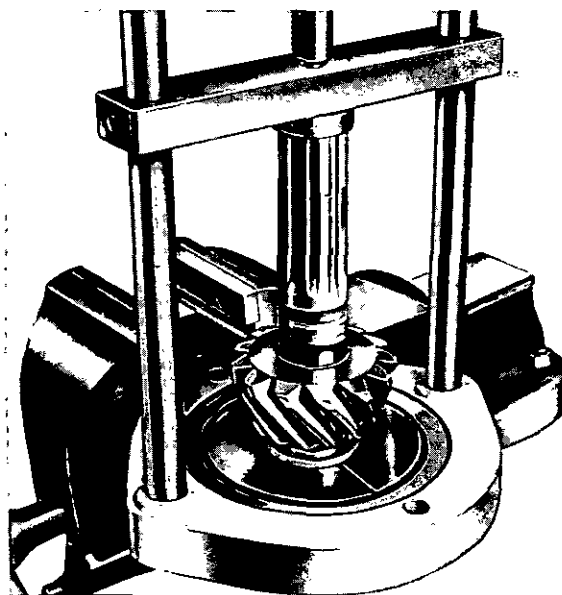

FIG. 37
1. Fig. 37. Using the MF 200 hand press and adapter MF 200-23, press the pilot bearing (57) on to the pinion.